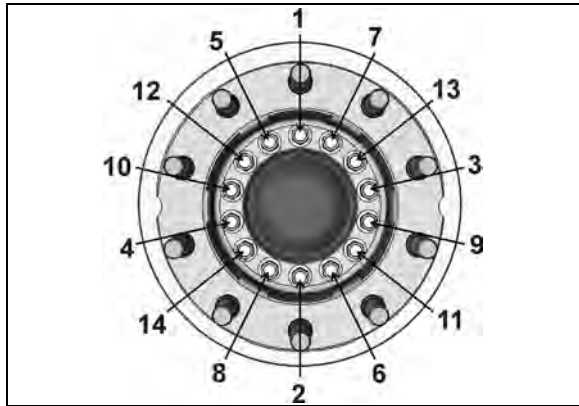

FIGURE 32 HUB FLANGE HEX CAP SCREW TIGHTENING SEQUENCE
16. Secure hub flange and rotor to unitized hub bearing using 14 new cap screws (single-use only). Refer to Figure 32 for tightening sequence.